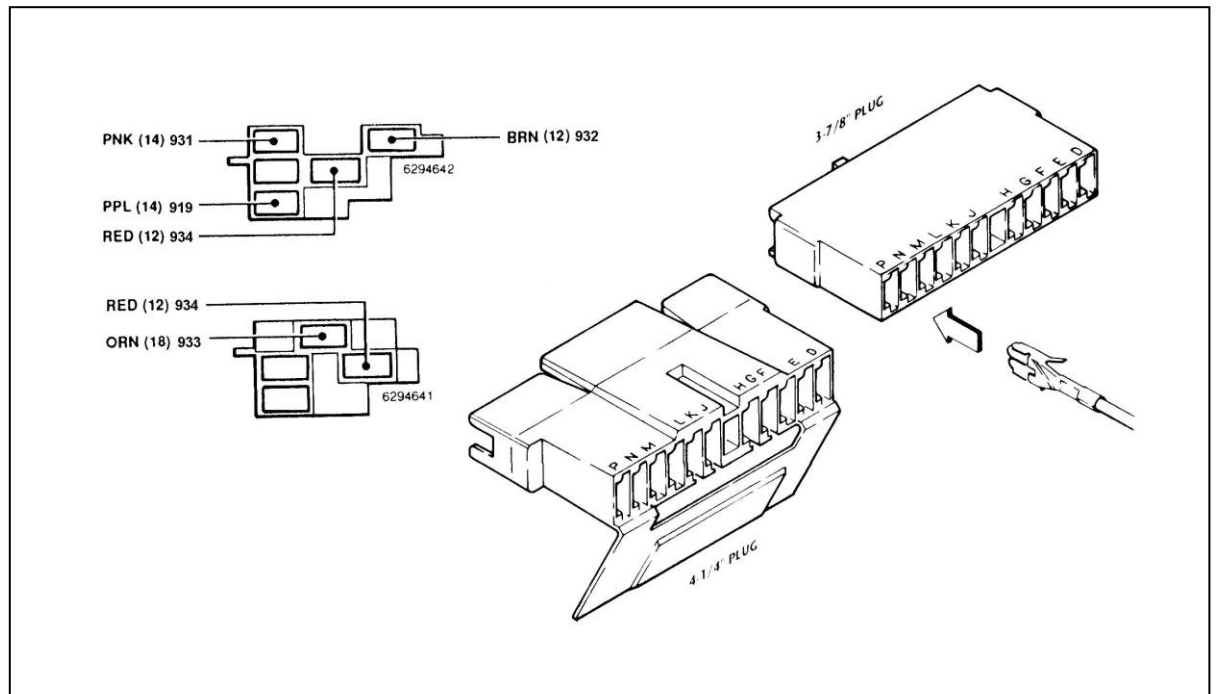

Figure 7-5 GM Turn Signal Connectors
- 7.5.1** There are two different plugs on most GM tilt columns. The difference is in the length of the male plug that is mounted ON THE COLUMN. One plug is 3-7/8" (3.875") long and the other is 4-1/4" (4.250"). This is only a difference of 3/8" (0.375"), so measure the plug carefully. The Wire Harness Kit has included two different female connectors to mate with the column-mounted plug. See **Figure 7-5** to determine which female connector is correct for your automobile.
Take the TURN SIGNAL SECTION wires, cut to length and install terminals provided. Choose the proper plug and install the terminals according to **Table 7-1**, as shown in **Figure 7-5**. The GM wire color codes have been included for reference.
*Note: The terminals will only insert into the connector ONE WAY, as shown in **Figure 7-5**. Make certain you are inserting the wire into the CORRECT LOCATION as the terminals are difficult if not impossible to remove once inserted.*
- 7.5.2** The Wire Harness Kit has included two connectors to mate with the GM column-mounted ignition switch. Take the ignition switch wires, cut to length and install terminals provided. See **Table 7-1** and **Figure 7-5** for color codes, wire numbers, and wire designations for the Ignition Switch Connectors.